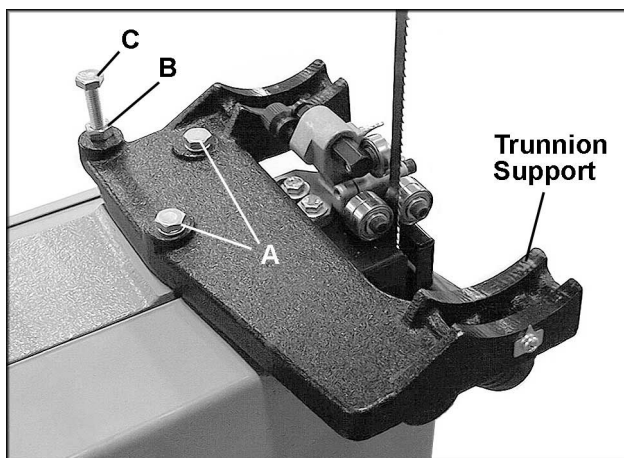

Fig. 6
- Attach trunnion support to saw body with two M8 x 30 hex cap screws and two M8 lock washers (A, Fig. 6).
- Thread nut (B, Fig. 6) onto table stop bolt (C, Fig. 6) and attach to trunnion support as shown.